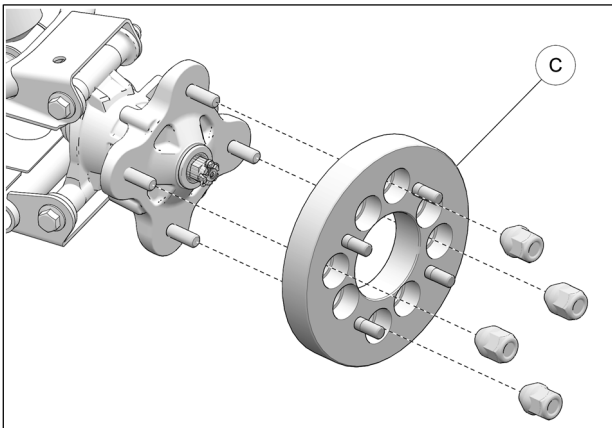
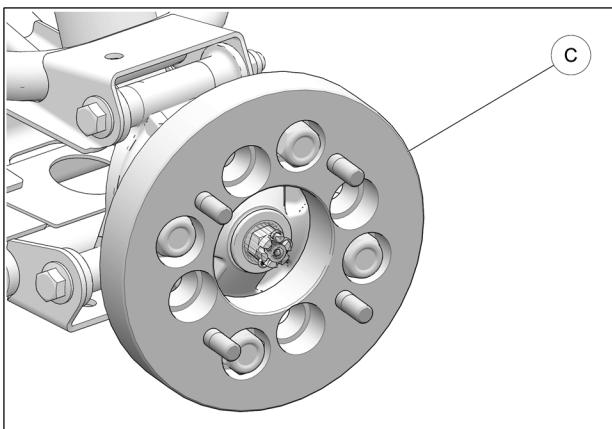

Fig. 15
Fig. 16
- Install the 1-in (25mm) thick spacer (C) over the front hub. Use the vehicle's original lug nuts. See Fig. 15 and Fig. 16